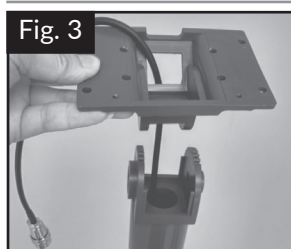

Fig. 3
3. Insert the cable through the bracket, then lay the bracket on the post. (Fig. 3)